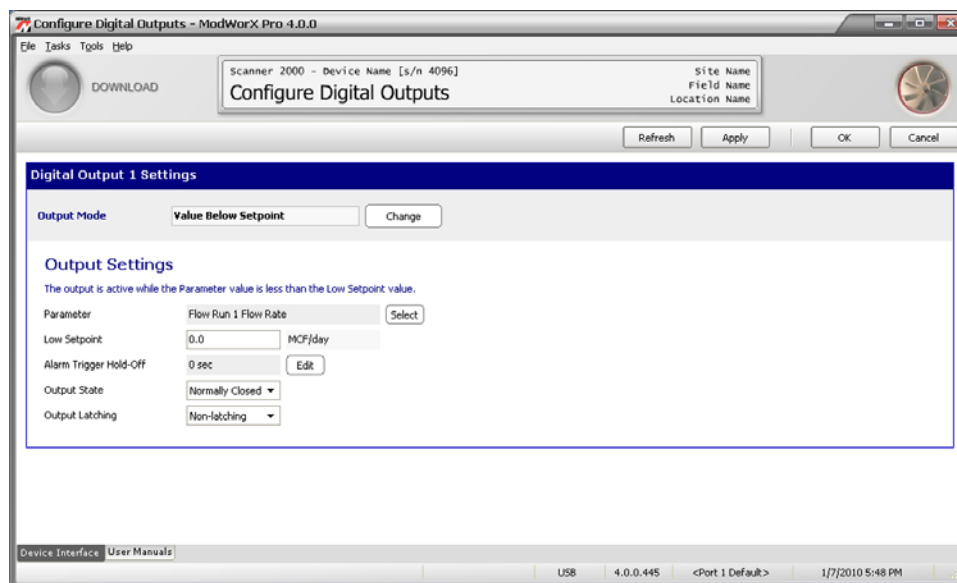

Figure 7.15
2. Click **OK** to save the setting and return to the Configure Digital Outputs screen (Figure 7.15). In this example, the alarm output is configured to activate when the value is below the designated threshold.
7. Change the output state, if necessary (Figure 7.15, page 103). Options are Normally Open and Normally Closed.
8. Change the Output Latching setting, if necessary (Figure 7.15, page 103). Options are Non-latching and Latching. If the alarm is latched, it will remain active once it is activated, even if the assigned parameter value returns to a normal range. The alarm must be manually cleared by the operator. If the alarm is non-latching, the alarm will clear when the assigned parameter value returns to a normal range without intervention from the operator.